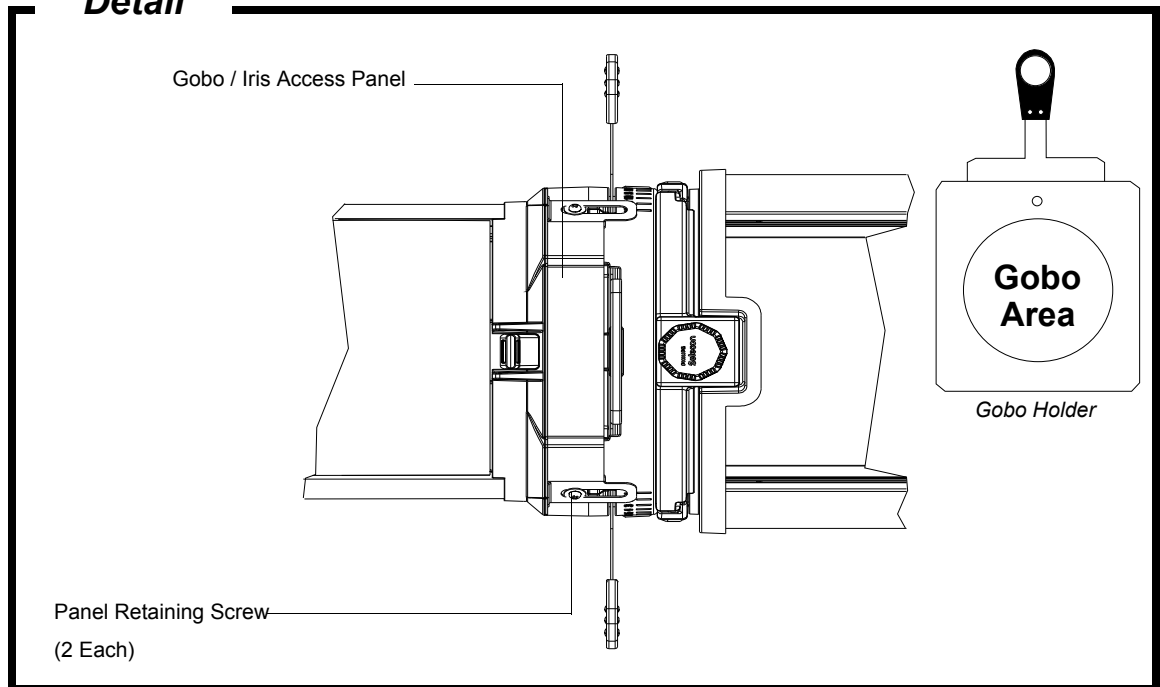

Figure 9: PLPROFILE4 MKII LED Luminaire Gobo Holder and Gobo Installation
- Step 1. As shown in **Figure 9 on page 15**, loosen, but do not remove, two retaining screws that secure gobo/iris access panel. Slide open gobo/iris access panel.